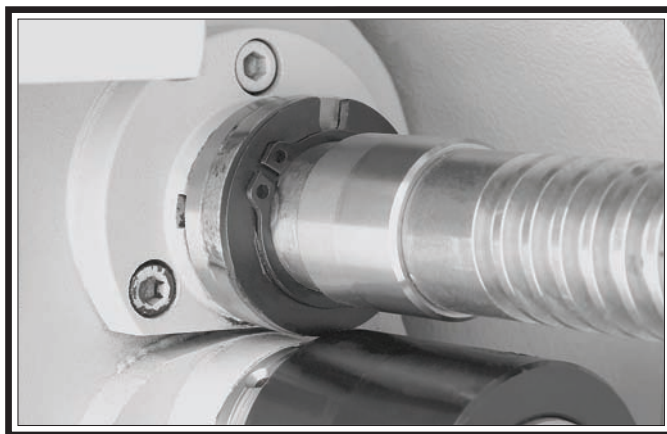

Figure 149. Retaining ring positioned with ears in front of pin access groove, so pin cannot fall out.
11. Using retaining ring pliers, return the retaining ring to its groove, and position the retaining ring ears over the shear pin head, as shown in **Figure 149**, to prevent the shear pin from falling out—if the shroud washer rotates into alignment with the pin access groove lines.